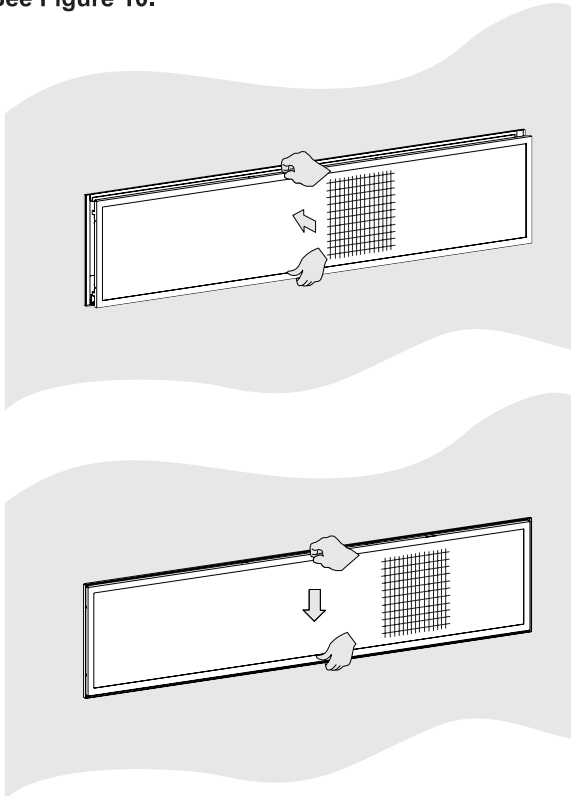

Figure 10
13. Reinstall the Barrier Screen onto the fireplace by lining up the tabs with the slots in the firebox. Push the barrier Screen toward the unit and lower it slightly to lock in place. **See Figure 10.**